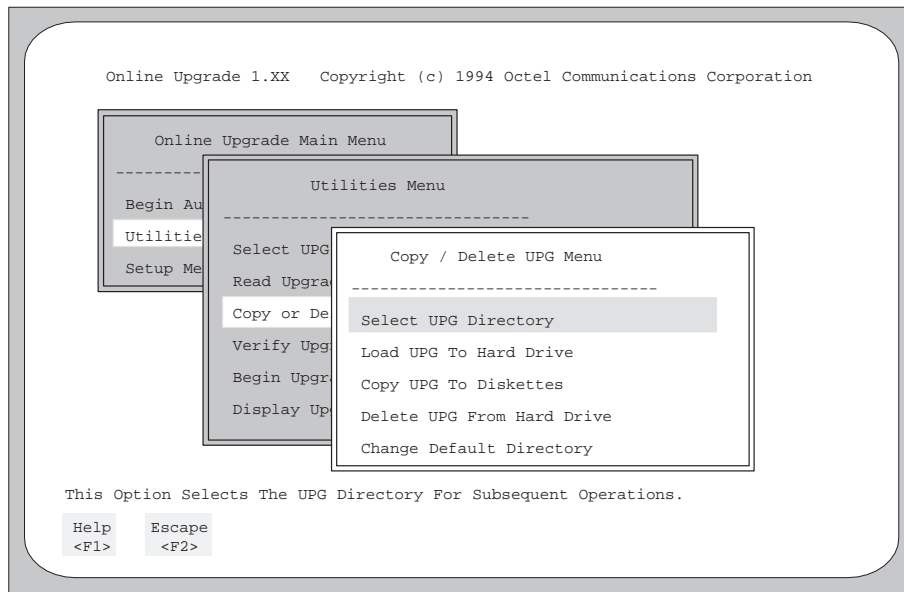

Figure 13-8. Copy / Delete UPG Menu.
- From the Utilities Menu, select the Copy or Delete UPG option, then press **Enter**. The Copy / Delete UPG Menu appears, as shown in Figure 13-8.
7. Remove the final diskette and press **Enter** to return to the Copy / Delete UPG Menu (Figure 13-8).